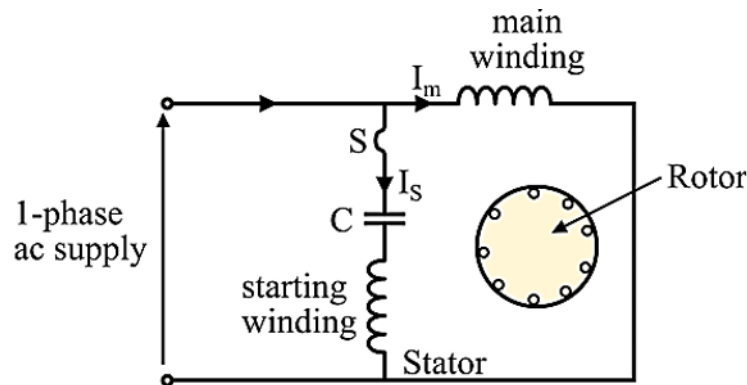
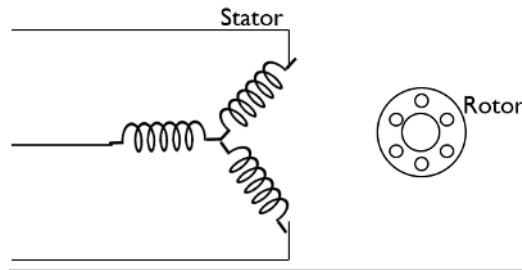

Figure 1.1: Capacitor start induction motor
Figure 1.3: *Circuit diagram*
1. **Construction:** The machine is made of a *stator* (the stationary part) and a *rotor* (the revolving part). The stator consists of two sets of windings - the starting winding and the main winding. The capacitor or inductor is connected in series with the starting winding, containing a centrifugal switch. However, the main winding is connected directly across the supply as shown in Figure 1.1.
1. **Construction:** Like the single phase one, the 3-phase induction motor has two main parts, a stationary part called the stator and the revolving part called rotor. Unlike the single-phase one, the stator of the three-phase motor has three sets of electrical windings of a fine gauge or size placed 120° apart. These windings can be connected in a star or delta formation and are secured in the stator frame. These windings are connected to a three-phase power supply via a three-pole switch. The revolving part (rotor) is made up of a cylindrical core with copper or aluminium bars embedded in it. The ends of the bars are connected to rings in a manner that forms something like a cage (refer to fig 1.1 of this unit). Figure 1.3 shows the circuit diagram of the 3-phase Squirrel-cage induction motor.